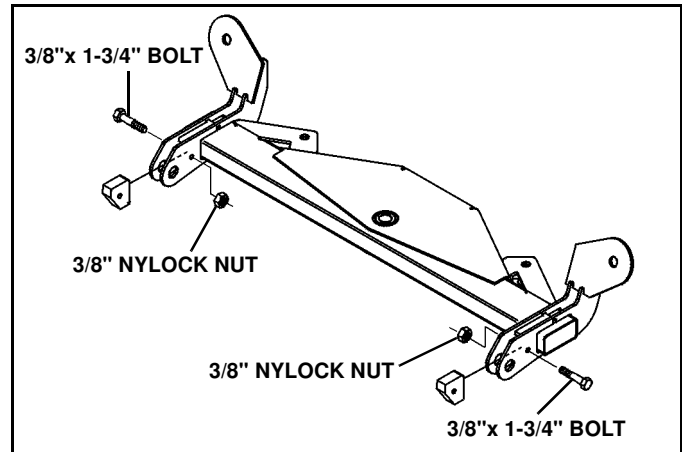

Figure 1-4
2. Place stops between the lugs on the swing frame. Secure with 3/8" x 1-3/4" bolts and locking nuts. (See Figure 1-4). The bolts and nuts are in the blade parts bag.